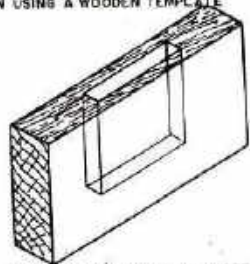

Fig. 738. HOLLOW CHISEL MORTISE
1. The hollow-chisel mortiser Fig. 738.